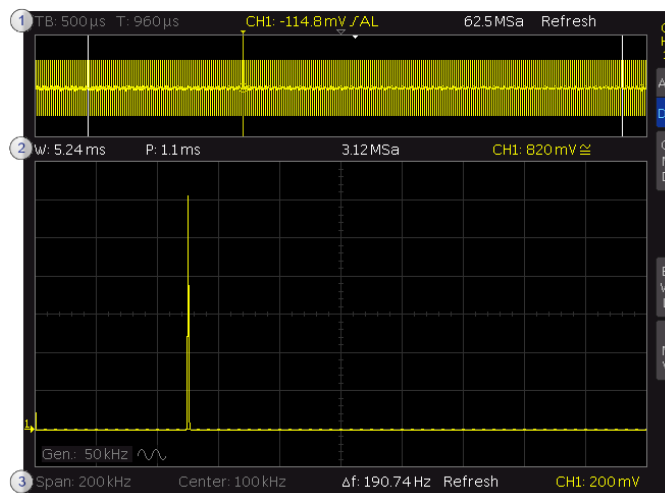

Fig.6-2: Setup of FFT mode.
The screen is split into two panes; see Fig.6-2. The upper pane (①) displays the previously defined voltage-time trace for the measured signal and the settings for the horizontal system.